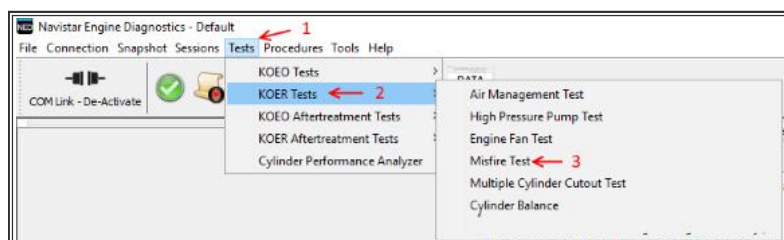

Figure 1 : Navigation
3. Navigate to the Misfire test Figure 1